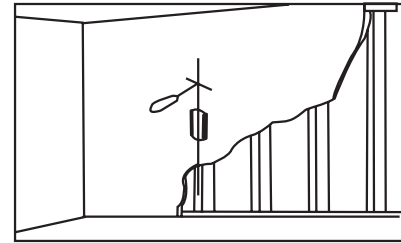

Fig 2b
Wooden wall(Fig 2b):
Using a awl or nail to make where the nails are located, as shown as fig.2b. Pre-drill these holes with a 5mm drill bit to at least 80mm in deep hole. Please make sure these holes are level and located at center. Use wall mount as a template to mark the location of other three holes and drill the same holes. Fix the wall mount to the wall with 4 long bolts(I) and washers(K).